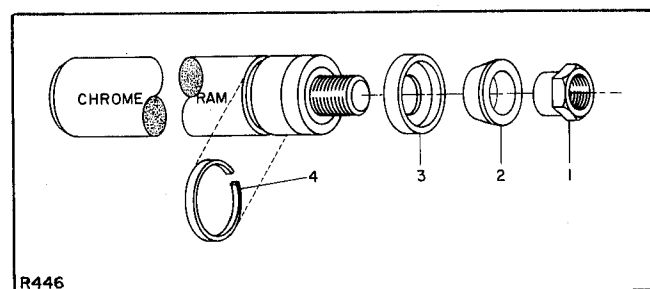

Figure 3-6. Chrome Ram and Packing Material
(Figure 3-6)**
8. Disassemble the chrome ram by removing plunger cup nut spreader (1, figure 3-6).
9. Remove the grommet (2) and plunger cup (3).
10. Remove the ram limit ring (4) by using a pointed tool or small screwdriver to work the ring from the retaining groove.
NOTE: It is recommended that certain parts (indicated in figure 3-6) be replaced each time the equipment is dismantled. These parts are available separately or as part of Minor Repair Kit, No. 900027.